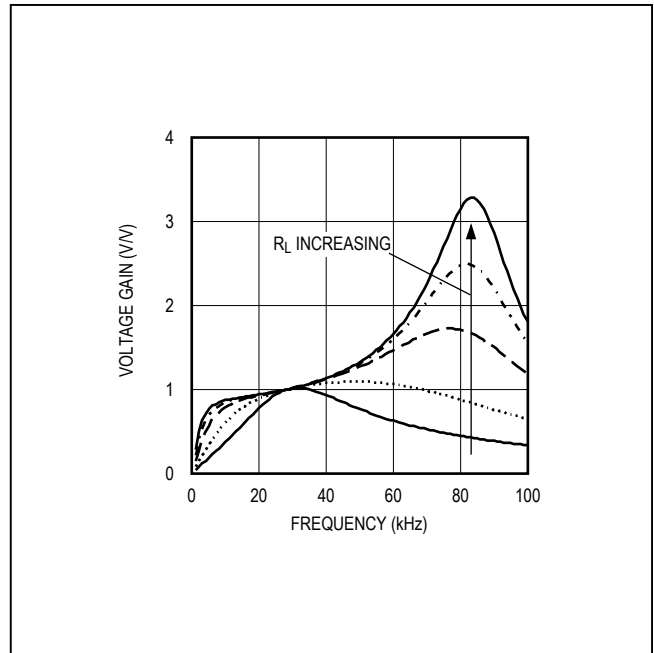

Figure 6. Frequency Response of the Resonant Tank
Figure 6 shows the frequency response of the resonant tank's voltage gain under different load conditions. The primary series capacitor is 1 μ F, the secondary parallel capacitor is 15pF, the transformer turns ratio is 1:93, and the secondary leakage inductance is 260mH. Notice that there are two peaks, f_S , and f_P , in the frequency response. The first peak f_S is the series resonant peak determined by the secondary leakage inductance (L) and the series capacitor reflected to the secondary (C'_S):